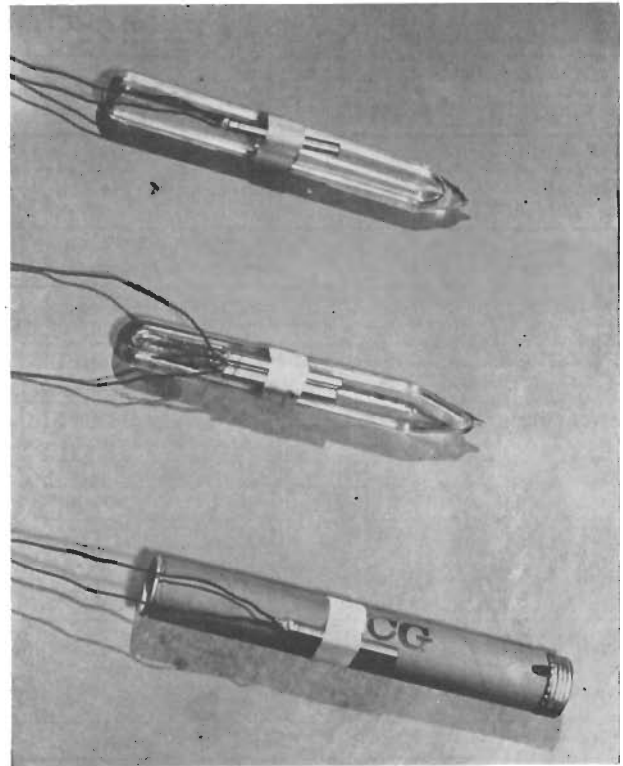
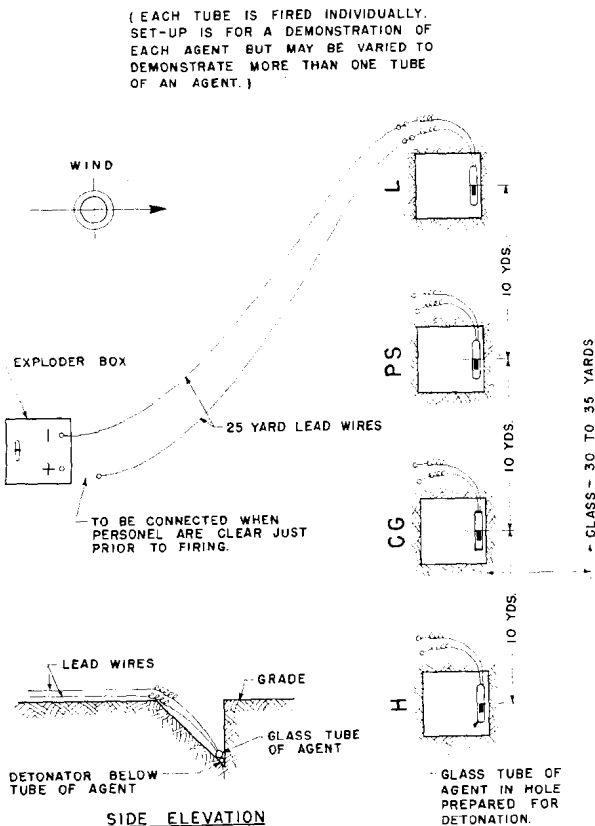
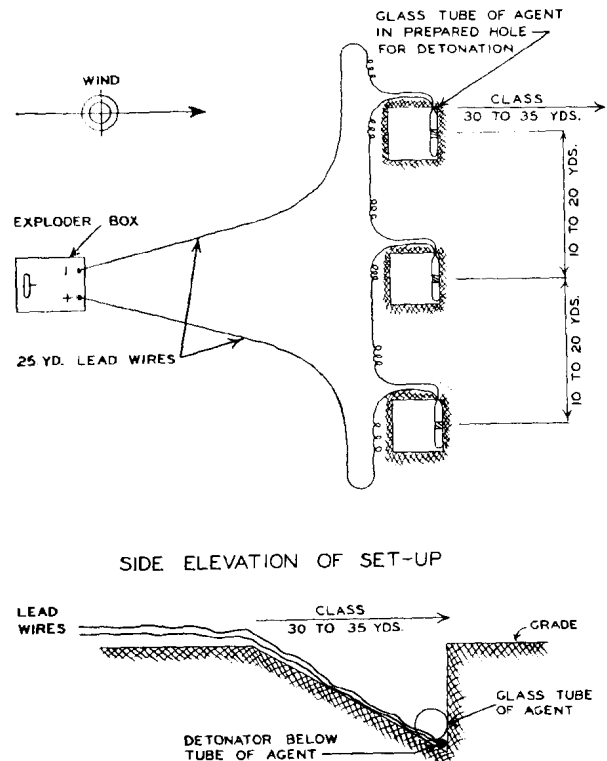

Figure 7—Tubes of agents with detonators attached
Figure 8—Diagram of Set-Up for Detonating Agents for Small Classes
Figure 9—Diagram of Detonation of Agent Set-Up for Field Identification for Large Classes
The detonators are to be fastened to the glass tubes containing H, L, and PS, and to the cardboard container of the CG filled glass tubes (see Figure 7). (Never remove the glass tube of (CG) from the cardboard container as internal pressures may, as a result of heat from the hand, build up sufficiently to burst the tube). Some detonators may be shipped with a small lead disc shunt (see Figure 8) shorting the detonator leads just in front of the detonator. This disc must be removed in order that the current may fire the detonator. It should be removed just prior to attaching to the tube. Connections are made as shown in Figure 7. Hook-up with the exploder box (Figure 6) is shown in Figure 8, for small classes, and Figure 9 for larger classes. The tubes with detonators attached are to be placed in small pits about 9" deep as indicated in Figure 8. Care should be exercised to keep the detonators on the underside of the glass or cardboard tube to insure the discharge of the agent into the air.
The number of samples of an agent necessary to give a satisfactory demonstration and test will be determined by the officer in charge of the demonstration. Under normal weather conditions, one sample is considered sufficient for a group of twenty persons. For larger groups, or for demonstrations under adverse weather conditions, a larger number of samples of a particular agent will be required. When two or more tubes are fired at once, the firing line should be at right angles to the wind direction. When firing two or more tubes simultaneously, they should be attached in series as shown in Figure 9, care being taken that the capacity of the blasting machine is not exceeded. When firing in series, detonators of the same manufacturer should be used in order that the resistance of each detonator is equal.